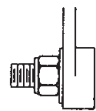

FIGURE 1
- A) INSTALL YOKE (1) OVER BOSS ON BASE.
- B) INSERT BOLT (2) AND FLAT WASHER (3) THRU YOKE (1) AND BASE BOSS.
- C) INSTALL FLAT WASHER (4) AND NYLOC NUT (5) AND TIGHTEN UNTIL BOLT END IS 3/8" PAST THE NUT. SEE FIGURE 1.